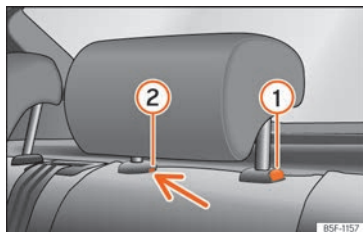

Fig. 131 Rear headrest: removal.
- Press button »» Fig. 131 ①, while simultaneously pressing on the security hole ② with a flat screwdriver a maximum of 5 mm wide, and remove the headrest.